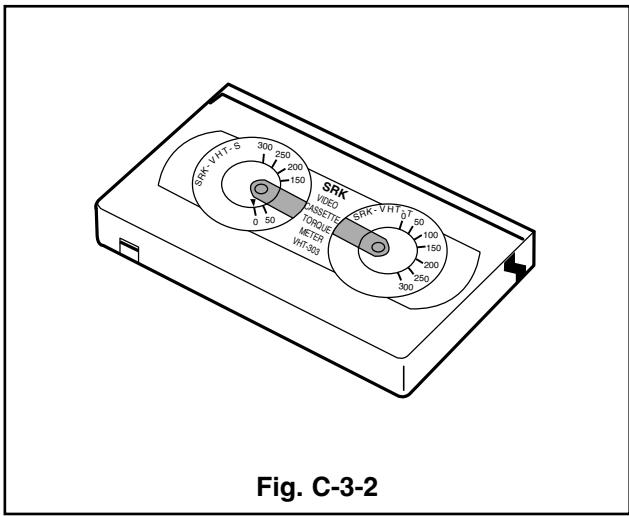
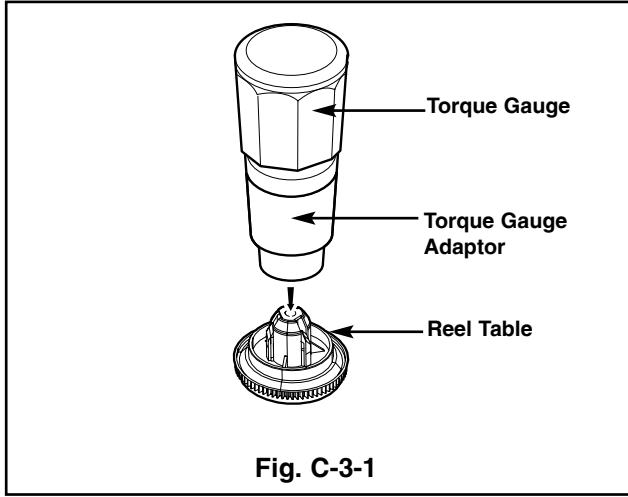

Fig. C-3-2
Fig. C-3-1
• Torque Gauge (600g/cm ATG) • Torque Gauge Adaptor • Cassette Torque Meter SRK-VHT-303	• Play (FF) or Review (REW) Mode
• Perform each Deck Mechanism Mode without inserting a Cassette Tape (Refer to above No.2 Preparation for Adjustment). • Read the Measurement of the Take-up or Supply Reels on the Cassette Torque Meter (Fig. C-3-2). • Attach the Torque Gauge Adaptor to the Torque Gauge and then read the Value of it (Fig. C-3-1).